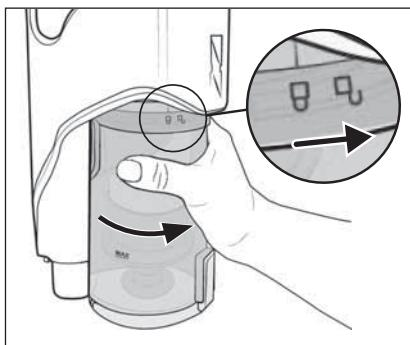

Fig. 23
- 8) Put the dust container ⑥ back into the appliance and turn it in the direction of the symbol ⑧ (close) until it is firmly seated in the appliance (see Fig. 23).